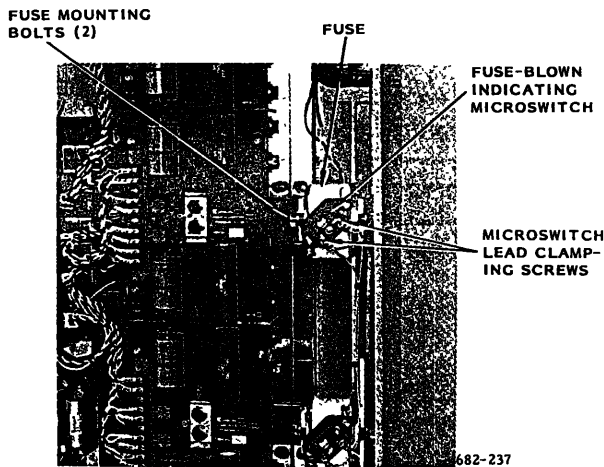

Fig. 20 Main Circuit Fuse Assembly (460 V, 420 A)
1. Remove the two lead clamping screws of the fuse-blown indicating microswitch and free the leads. (Fig. 20)